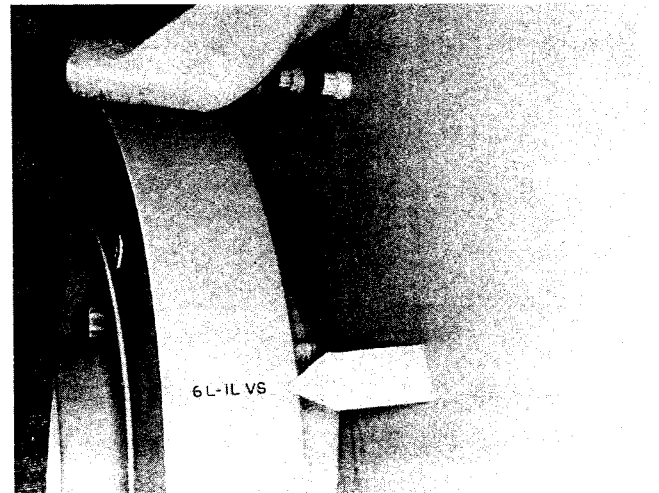

Fig. 2-59, (K21917). Valve set marks on vibration damper — KT(A)-2300
1. When viewing engine at vibration damper, Fig. 2-59, align timing marks on damper with pointer on gear case cover.